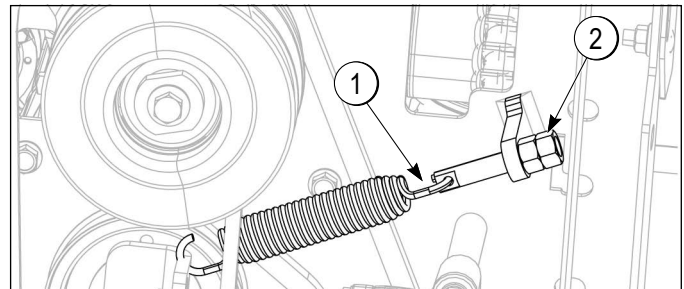

Figure 6-6
Pump belt spring tensioner (1) is shown in Figure 6-6.
2. Using a 3/4 inch wrench, loosen the top jam nut (2). Tighten the adjustment nut to increase the belt tension. Once desired drive belt tension is achieved, tighten the jam nut securely.